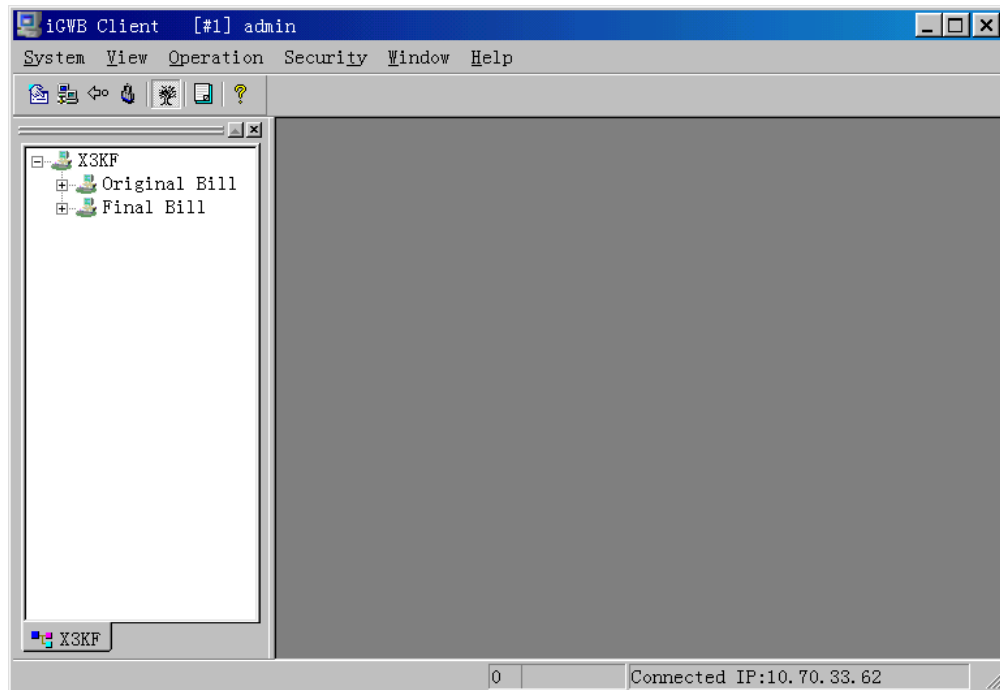

Figure 3-3 Main interface of CDR console after login
- 2) Enter a user name and the correct password. Select the office to be managed. Click <OK>. The window as shown in Figure 3-3 is displayed. The navigation tree of CDR files is displayed in the left pane of the window.